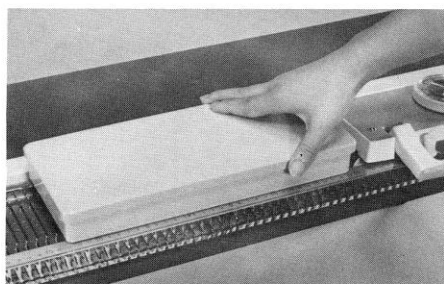

Fig.7
3. Take out the accessory box. (Fig.7)